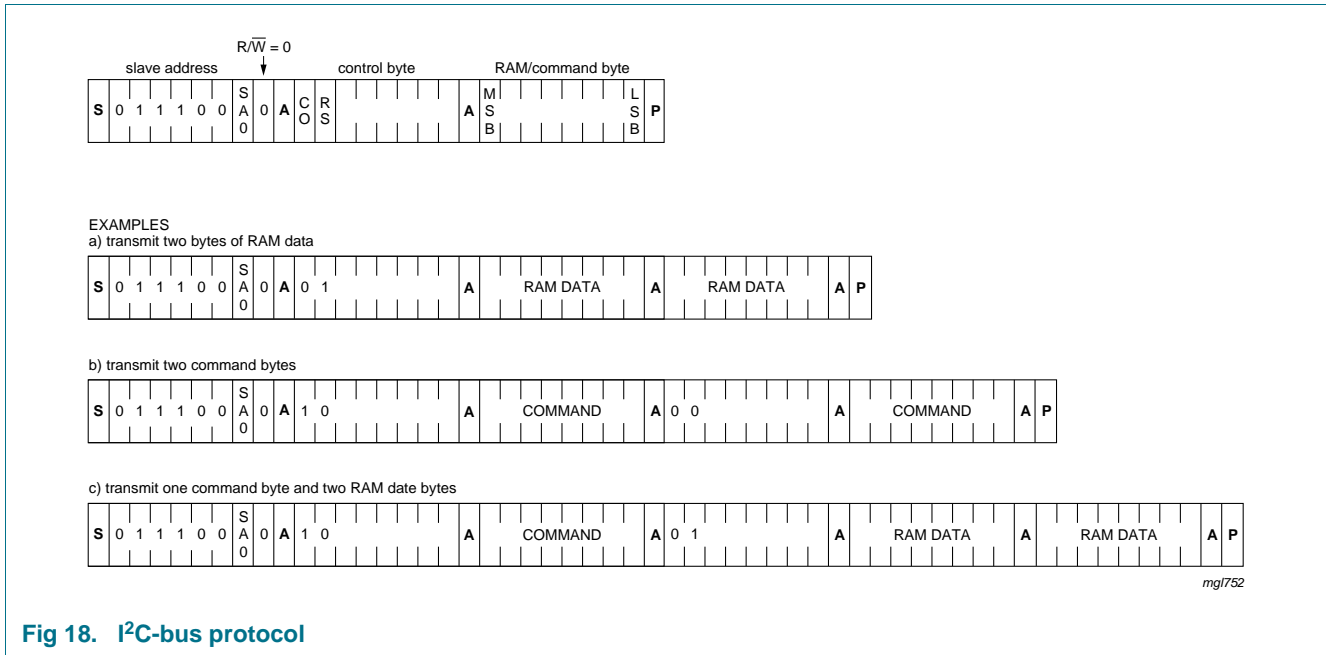

Fig 18. I²C-bus protocol
The I²C-bus protocol is shown in Figure 18. The sequence is initiated with a START condition (S) from the I²C-bus master which is followed by one of the available PCF8534A slave addresses. All PCF8534A with the same SA0 level acknowledge in parallel to the slave address. All PCF8534A with the alternative SA0 level ignore the whole I²C-bus transfer.